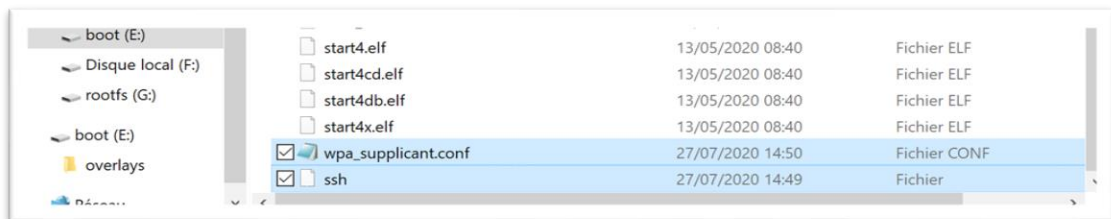

Figure 8. The ssh and wpa_supplicant files copied on the SD card
- Open Notepad again to create a new empty text file in the boot partition of the SD card. This file must be saved without extension: go to **Save as**, name it **“ssh”**, with the **“.”**, and in **Save as type**, choose **All Files (*.*)**. This operation will enable SSH protocol on your PICT (Fig. 8).